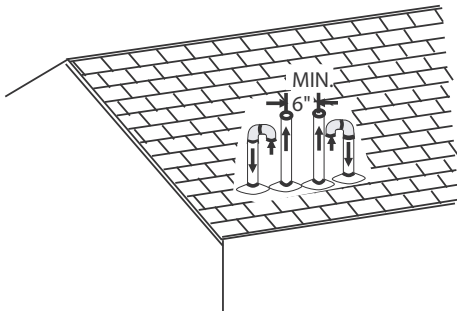

Fig 7-7 Double Vertical Combustion Air Intake and Vent Termination
3. VENTILATED COMBUSTION AIR: Combustion air is supplied through a PVC or ABS pipe that is connected to the PVC coupling attached to the burner box and is terminated in a ventilated attic or crawl space. The combustion air and the vent pipes are not terminated in the same atmospheric zone. Refer to Figure 7-7 for attic and crawl space termination. Only the combustion air intake may terminate in the attic. The vent must terminate outside.